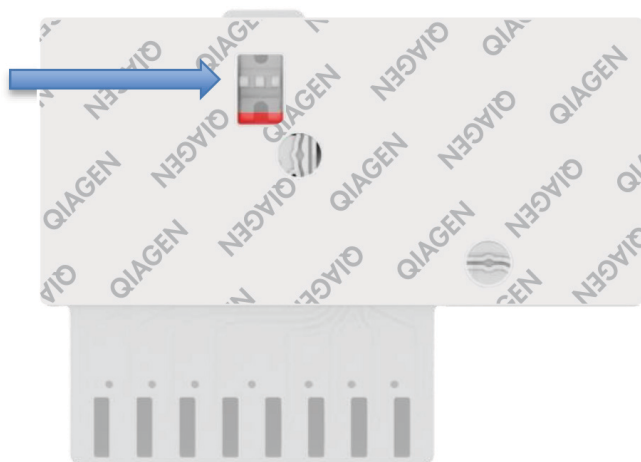

Figure 23. Sample inspection window (blue arrow).
8. Visually confirm that the sample has been loaded by checking the sample inspection window of the QIAstat-Dx Respiratory Panel Cartridge (Figure 23).